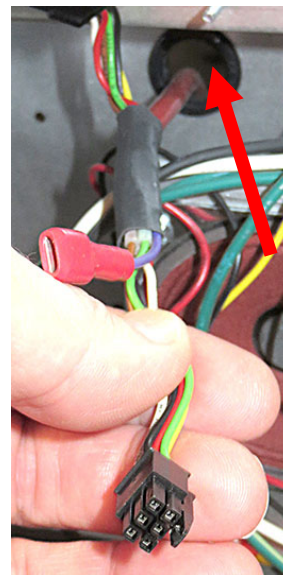

Figure 16
20. Route the harness from the OQS sensor, up the vertical channel and up behind the far-left control box. Insert the harness through the left bushing in the rear of the control box (see Figure 16).